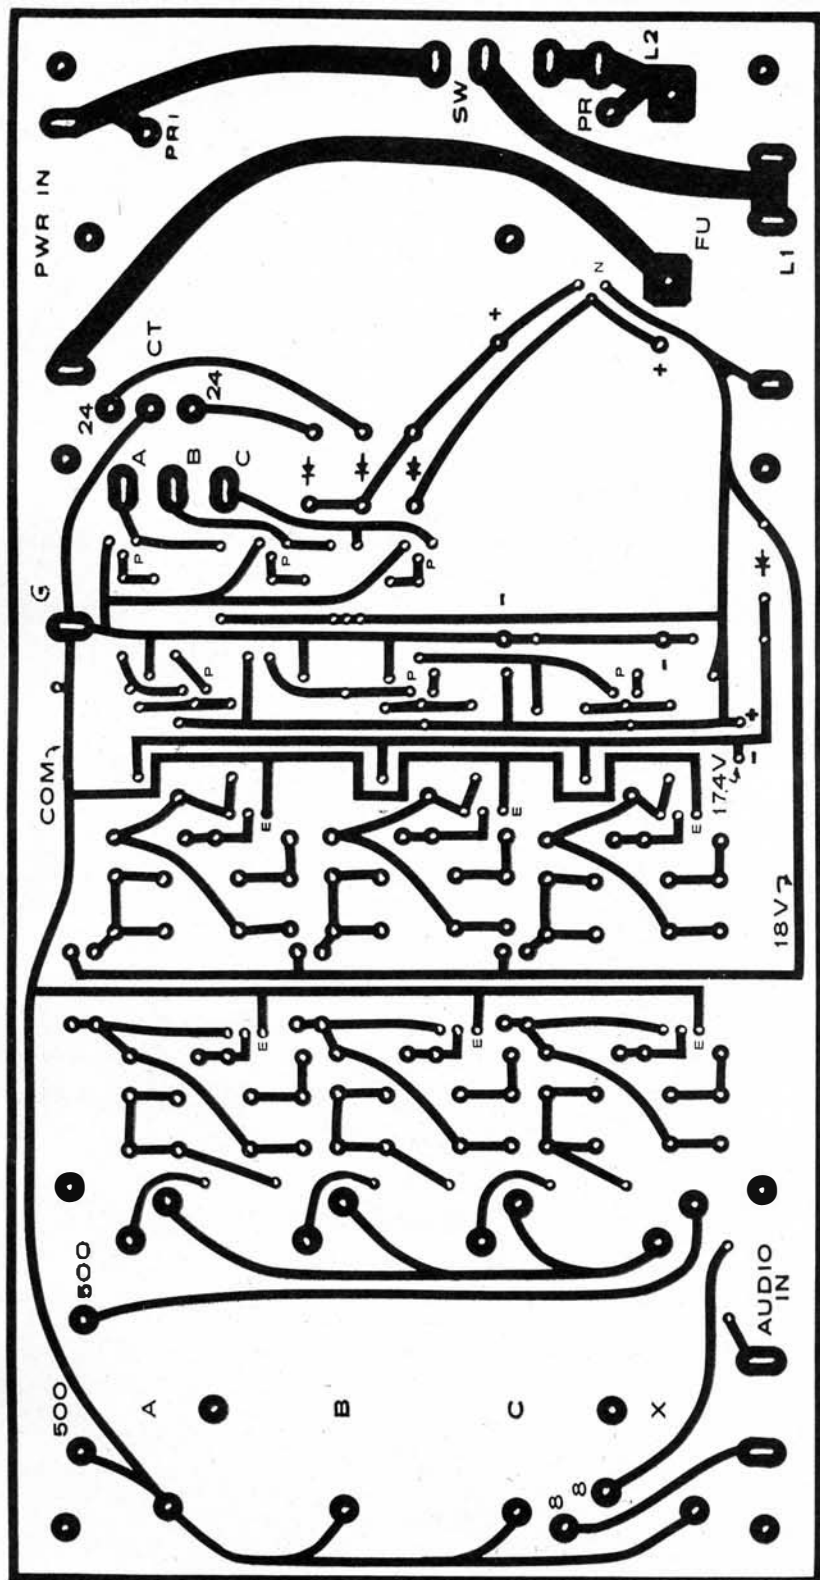
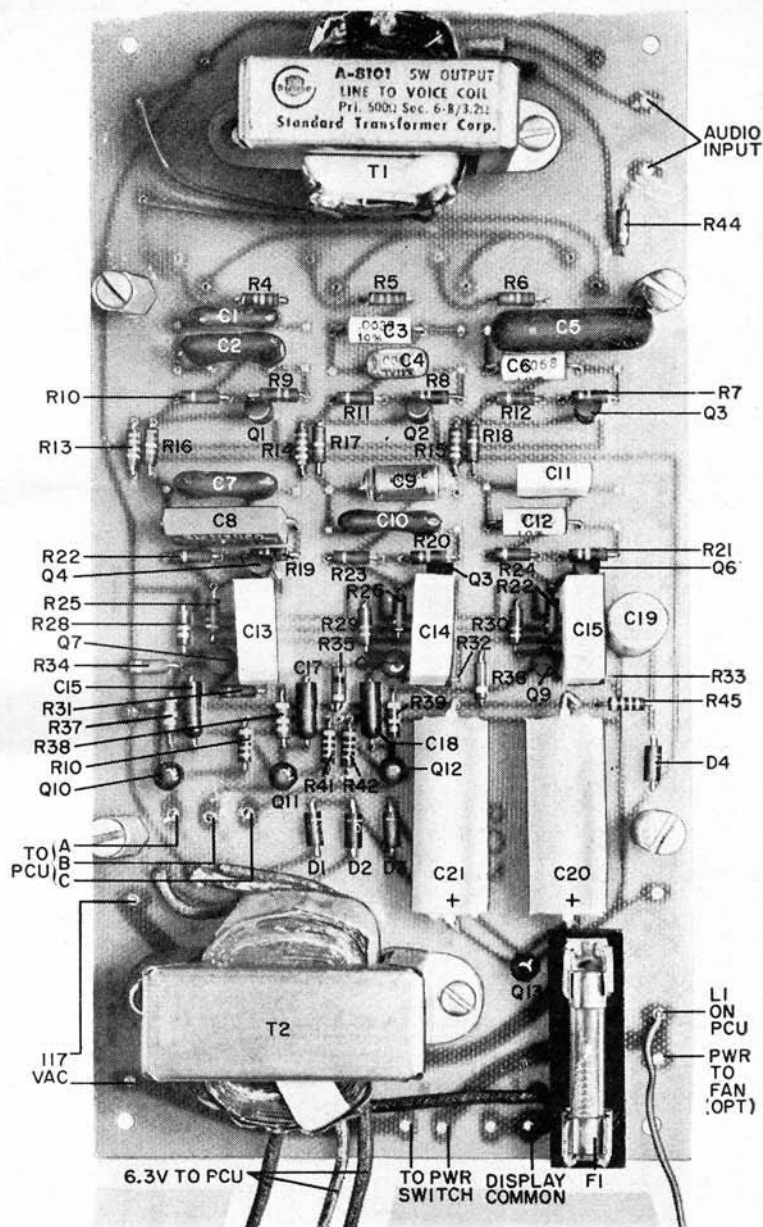

Fig. 5. You can copy this actual-size foil pattern for the QFU PC board or buy the board readymade.
Fig. 6. Component installation on QFU PC board. Also shown are connections made to the board.
**Construction of the QFU.** The schematic of the QFU is shown in Fig. 4 and an actual-size foil pattern for the PC board is in Fig. 5. Components are installed on both sides of the PC board. The units on the foil side are shown in Fig. 6. Install the four slide potentiometers with the blue at R1, green at R2, red at R3, and white at R4. The components on the other side of the board are shown in Fig. 7. Transformers T1 and T2 are pop-